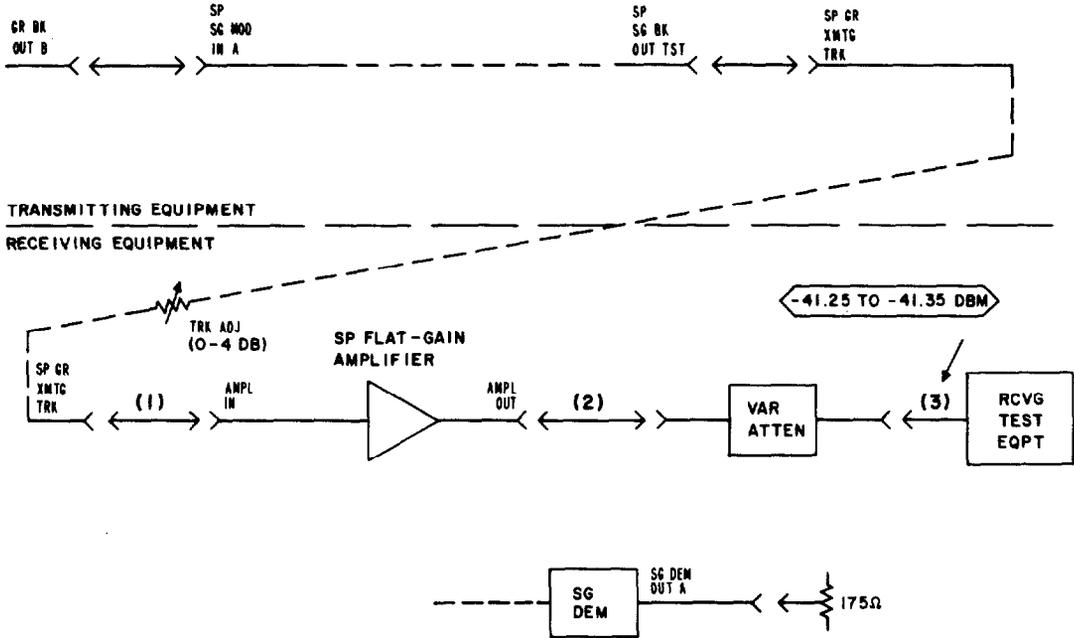

Fig. 1—Pilot Level Adjustment Connections
- 3 Make the test connections shown in Fig. 1.
6	Remove patch (3), Fig. 1.